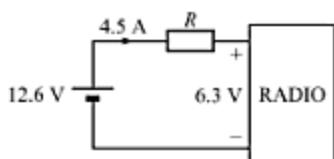

Fig. 2.52
30. A car radio designed to operate from a 6.3-V system uses 4.5 A of current, as shown in Fig. 2.52. (a) What resistance  $R$  should be placed in series with this radio if it is to be used in a 12.6-V system? (b) What should be the power rating of this resistance?